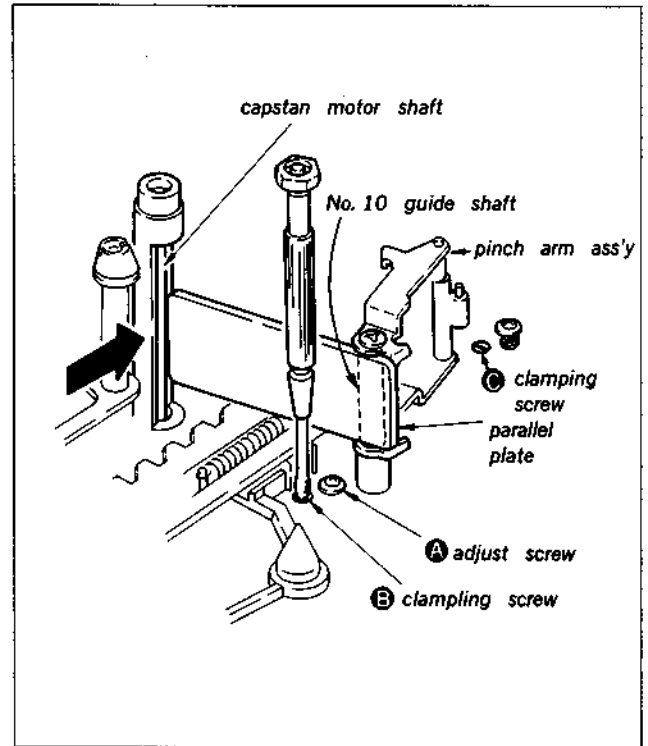

Fig. 3-11.
- 4) Apply the jig to the capstan motor shaft and the No.10 guide shaft of the pinch arm assembly in the vertical attitude as shown in Fig.3-11.